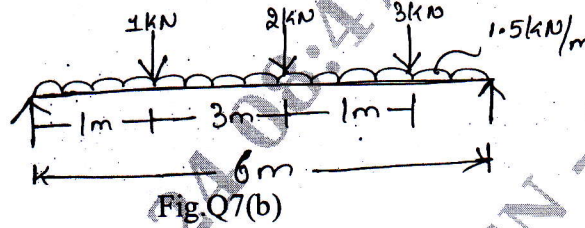

Fig.Q7(b)
b. Draw SFD and BMD for the Fig.Q7(b) given below.